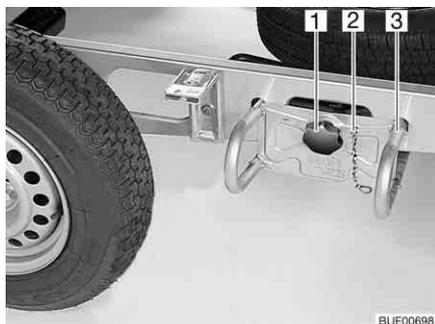

Fig. 237 Spare wheel support
- Unhook the safety chain (Fig. 237,2).
- Loosen and unscrew the star handle (Fig. 237,1).
- Pull out the spare wheel support (Fig. 237,3) about 10 cm and place it on the ground.